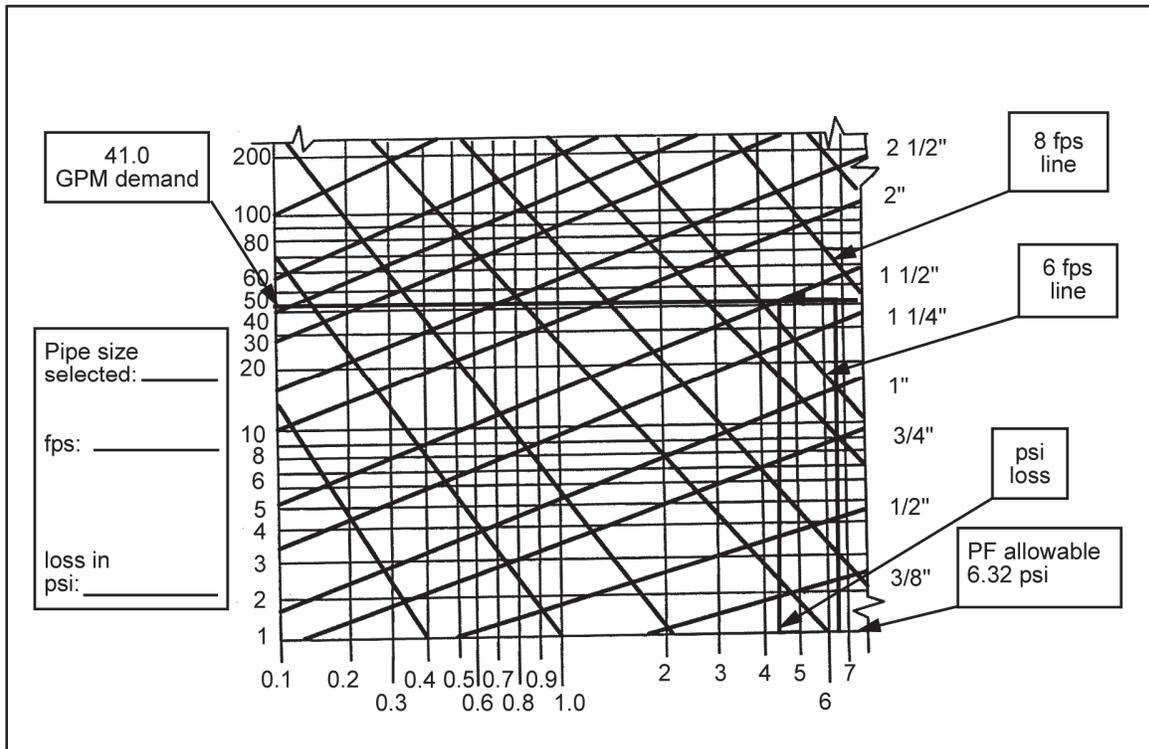

Figure D-1. Friction loss using a fairly smooth pipe
D-2. Refer to figures D-1 through D-5, pages D-6 through D-10, to design and draw a water service line. These figures can also be used to determine pipe sizes.
D-3. Use the following steps and figure D-1 to determine the size of the pipe, the velocity, and the friction loss from Point A to Point B:
Find the fluid's actual velocity, which should be between 2 and 10 fps, and find PF_{actual} (from figures D-1 to D-5, pages D-6 through D-10).
Step 7. Determine the equivalent pipe length (EL) for fittings. Go back to *Step 4* and recalculate $PF_{allowable}$. If the pipe size changes in the appropriate friction loss table (figure D-1 through D-5, pages D-6 through D-10), then find the new velocity and PF_{actual} from figures D-1 through D-4, pages D-4 and D-5. EL is negligible if there is 1,000 feet or more between fittings.